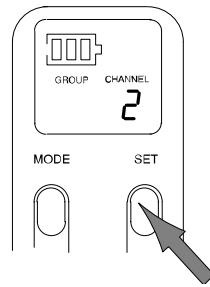

FIGURE 27
- To change the transmitter Channel number so that it matches the Channel number on the receiver display, press the SET button to advance to the desired Channel number, as shown in Figure 27.